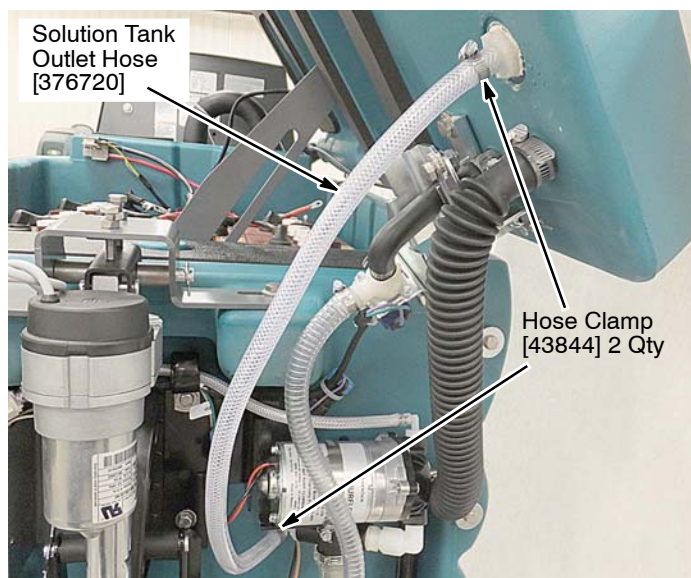

Fig. 26
12. Using two hose clamps install the solution tank outlet hose to tank and pump as shown (Figure 26).